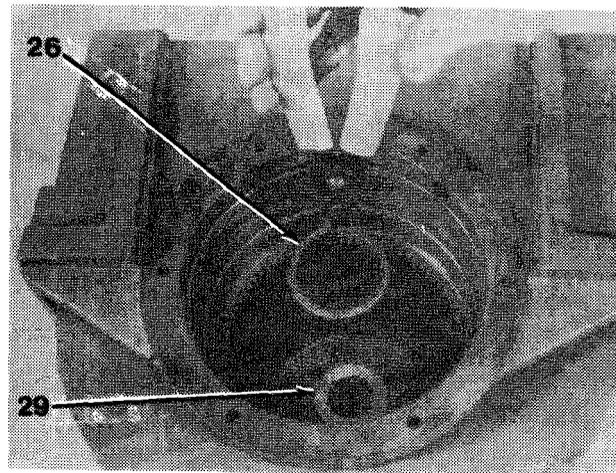

Figure 16-12
9. Stand winch on bearing support end and install snap ring (26) in bearing support (29), Figure 16-12).